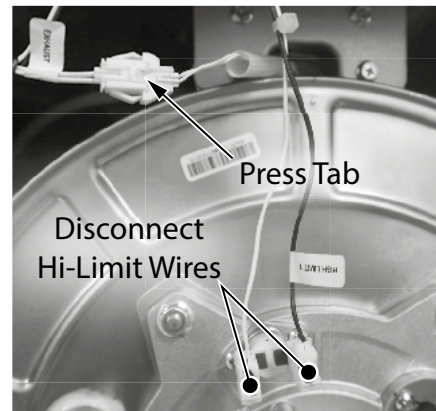

Figure 17 - Disconnect hi-limit and exhaust thermistor wiring
- 34 Locate the burner door hi-limit and exhaust thermistor wiring connected to the heat exchanger as shown in Figure 17. Disconnect the hi-limit wires (labeled "HI LIMIT 1") from terminals. Disconnect the thermistor wiring (labeled "EXHAUST") by pressing on the small tab while
63 Follow **Steps 34-35** in reverse order to connect burner door hi-limit and exhaust thermistor wiring. Confirm connections are tight and routed properly as shown in Figure 17.